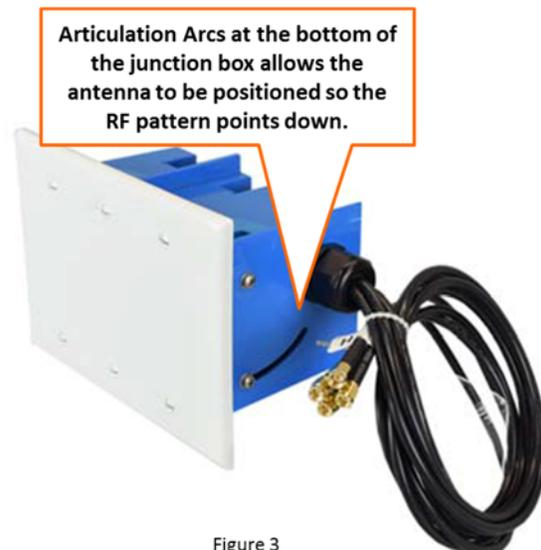

Figure 3
- b. Ensure the Articulation Arcs are at the bottom of the junction box for an RF beam that points down. Refer to Figure 3.